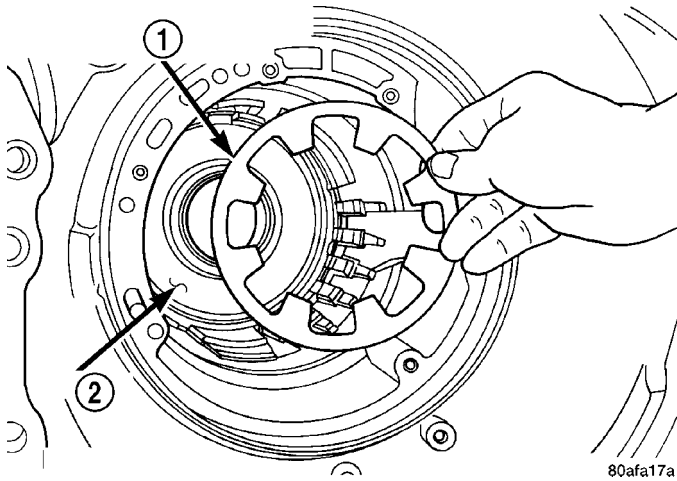

Fig. 75 Low/Reverse Piston
(58) Remove low/reverse spring compressor tool and low reverse piston return spring (Fig. 75).